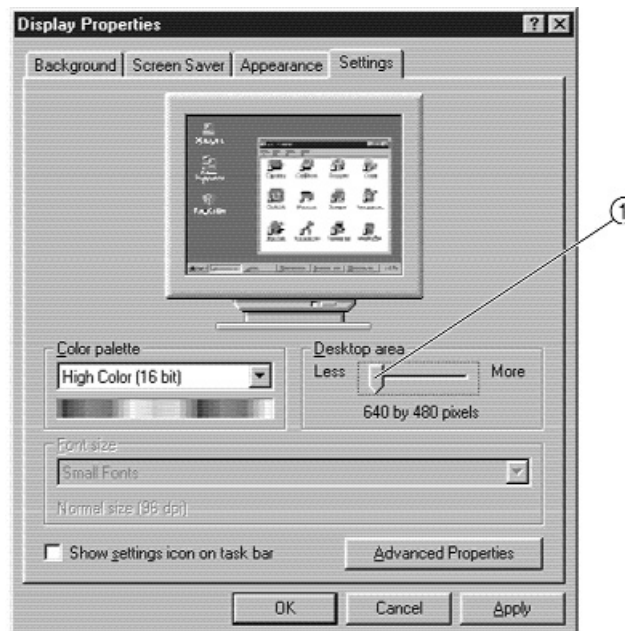

Fig. 74
3. Select **Settings** and slide the Desktop area slider (Fig. 74).